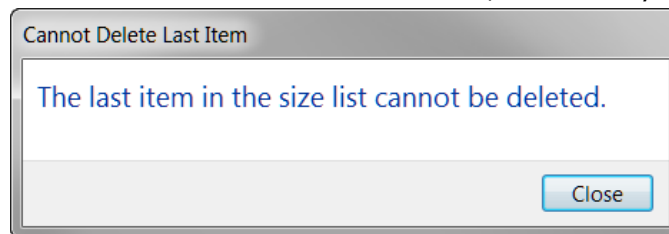

Figure 225 - A very simple task dialog with only main instructions for text
- See Figure 225 for an example of a purely informative task dialog with a close button